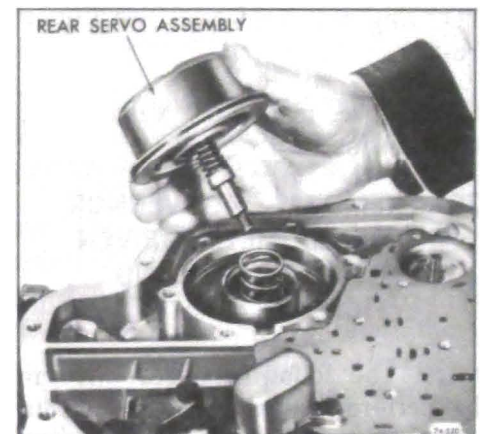

Figure 76-520
2. Remove rear servo assembly from case. See Figure 76-520.